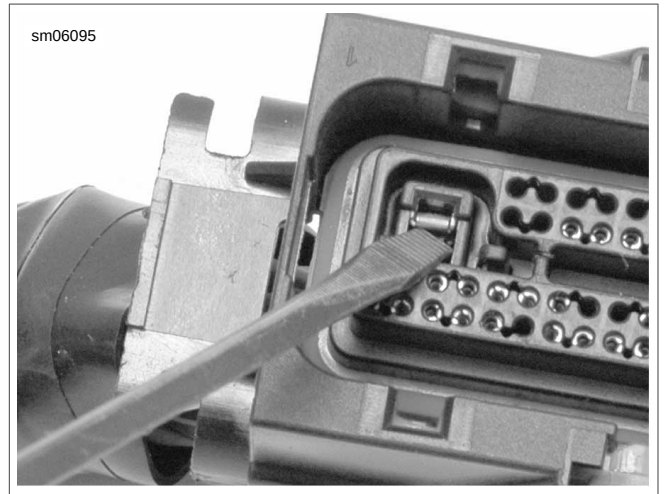

Figure A-25. Remove ECM Ground Terminal
3. See Figure A-25. Using a thin blade screwdriver, release latch and pull ground wire, wire seal and terminal from cover side of housing.